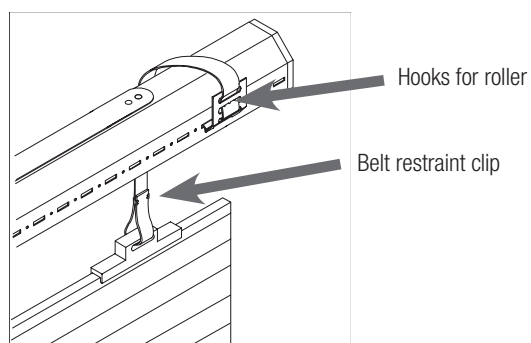

Fig. 19
**NOTE:** If the plate cannot be used for securing the belts, use the roller hooks (Fig. 1 ref. 8), fitting them in the recesses of the fixed roller as shown in figure 19.